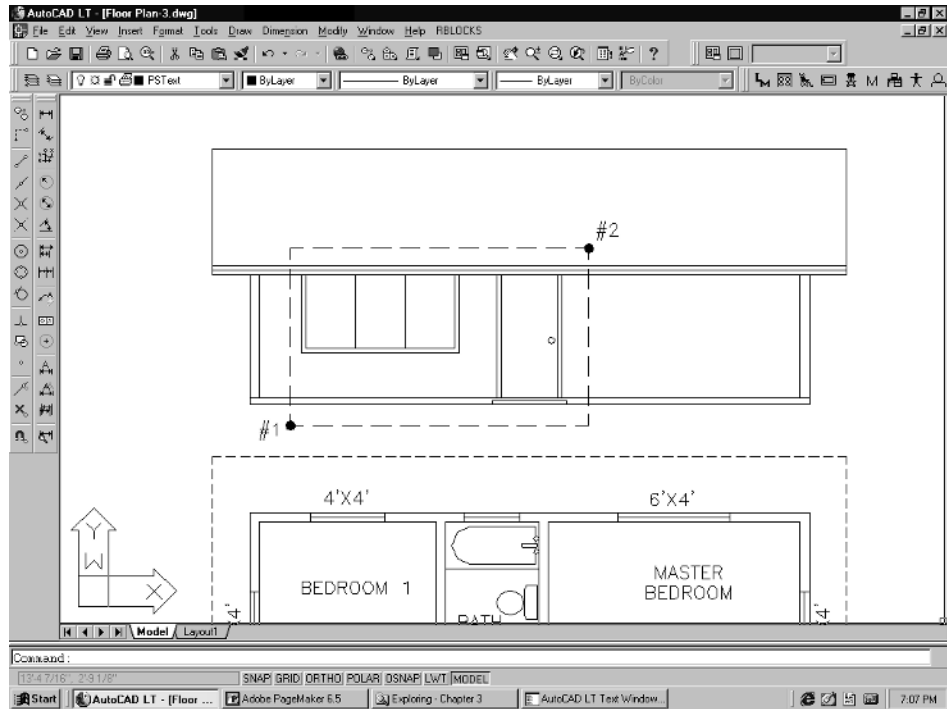

Figure 4-15
2. When prompted to *Select objects*, pick the lower left-hand corner below the window as the first point (#1 in Figure 4-15). At the *Specify opposite corner* prompt, drag your cursor and pick #2. Then hit **Enter**. That should erase all of the existing window and door lines.